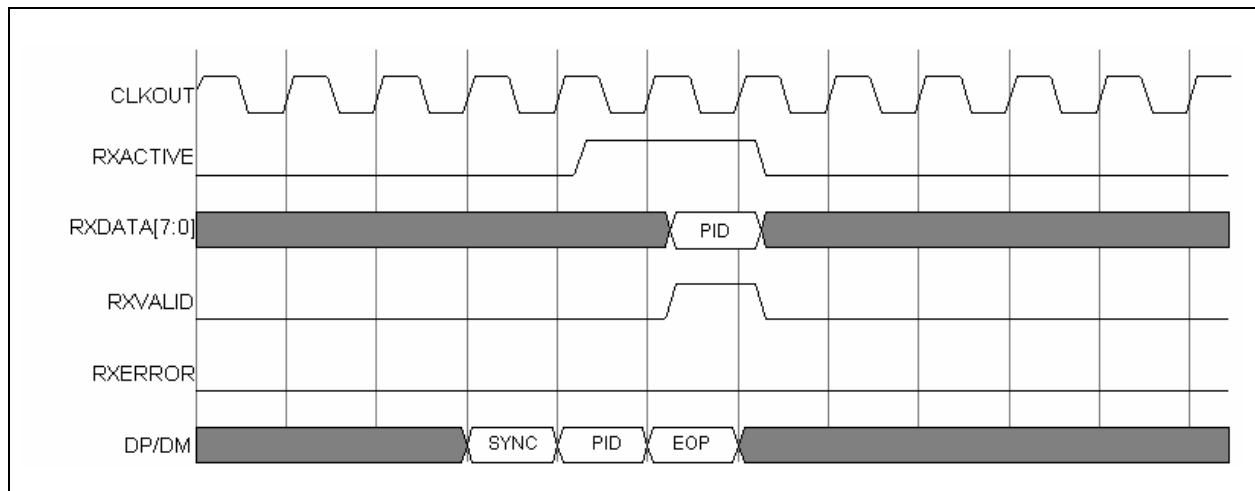
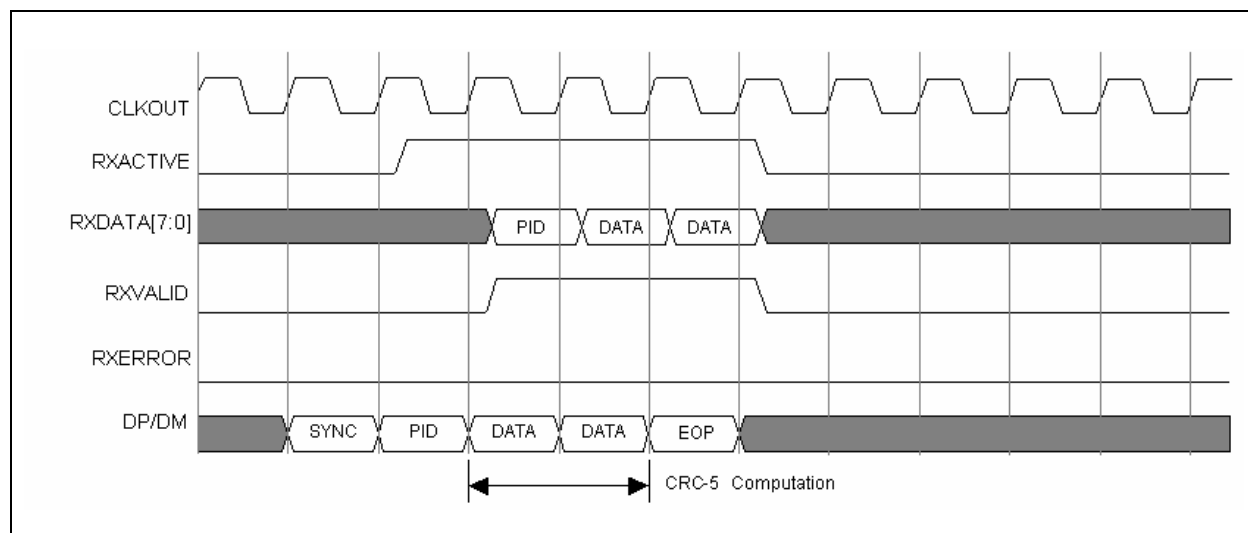
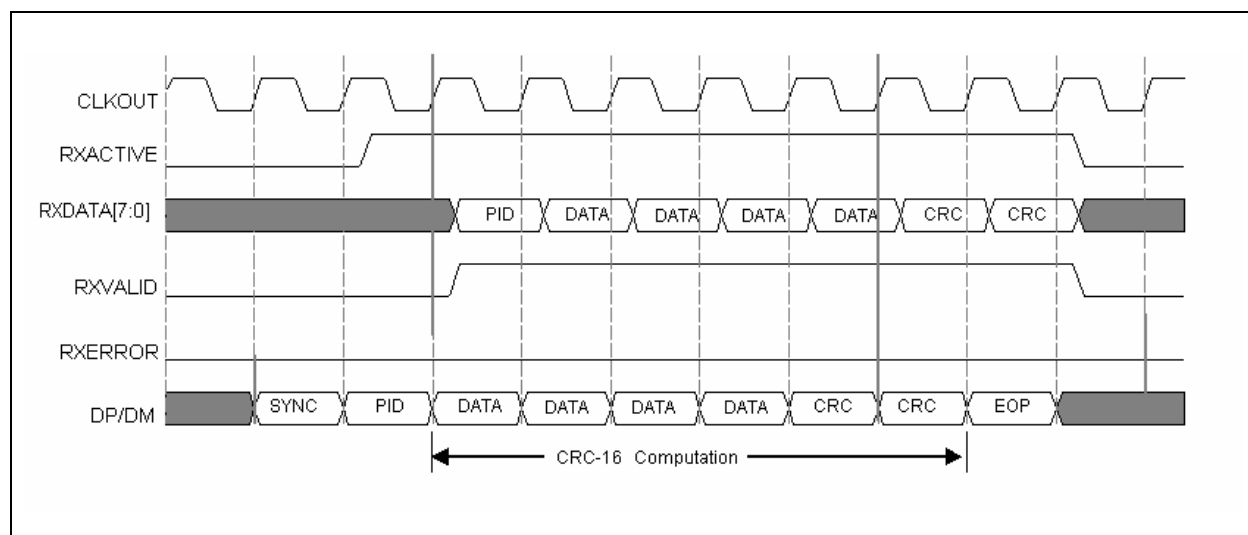

Figure 7.5 Receive Timing for a Handshake Packet (no CRC)
Figure 7.6 Receive Timing for Setup Packet
Figure 7.7 Receive Timing for Data Packet (with CRC-16)
- Figure 7.5 shows the timing relationship between the received data (DP/DM), RXVALID, RXACTIVE, RXERROR and DATA signals.
- Figure 7.5, Figure 7.6 and Figure 7.7 are timing examples of a HS/FS PHY when it is in HS mode. When a HS/FS PHY is in FS Mode there are approximately 40 CLKOUT cycles every byte time. The Receive State Machine assumes that the SIE captures the data on the DATA bus if RXACTIVE and RXVALID are asserted. In FS mode, RXVALID will only be asserted for one CLKOUT per byte time.
- In Figure 7.5, Figure 7.6 and Figure 7.7 the SYNC pattern on DP/DM is shown as one byte long. The SYNC pattern received by a device can vary in length. These figures assume that all but the last 12 bits have been consumed by the hubs between the device and the host controller.